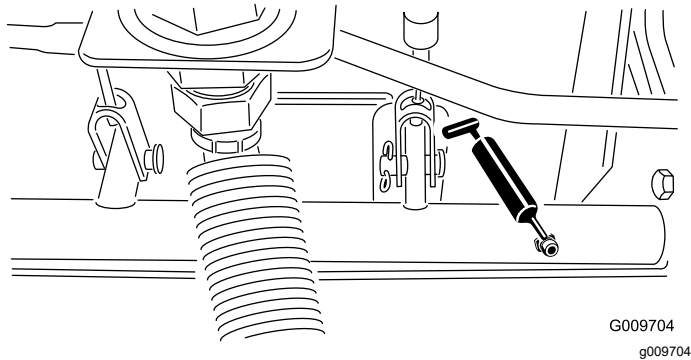

Figure 50
- Brake-shaft pivot bearings (5) as shown in Figure 50